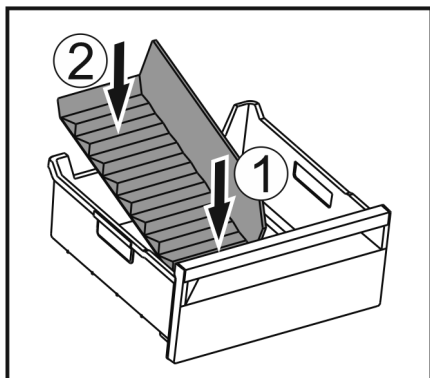

Fig. 56
- Insert the front part of the ice compartment divider. Fig. 56 (1)
- Lower the rear part of the ice compartment divider to the drawer bottom. Fig. 56 (2)